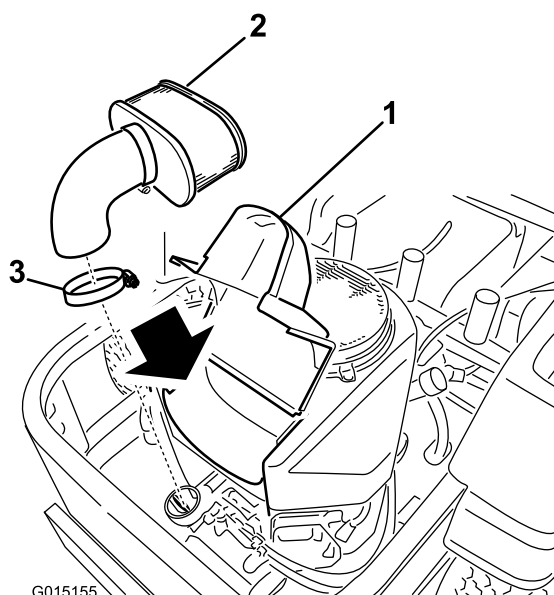

Figure 43
3. Clean around the air cleaner cover to prevent dirt from getting into the engine and causing damage. Lift the cover and remove the hose clamp securing the air cleaner assembly to the engine (Figure 43).
4. Loosen the hose clamp and remove the paper element (Figure 43).